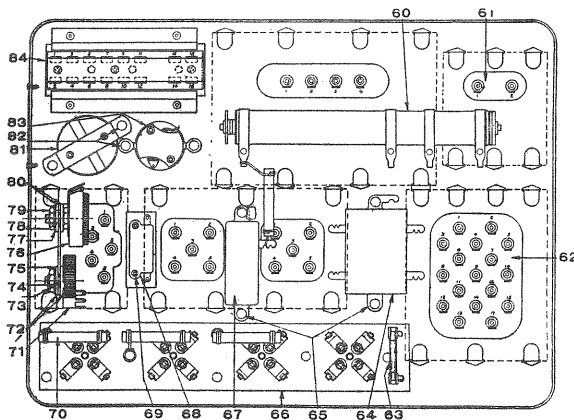

Fig. 3—Bottom View of Power Amplifier Unit, Showing Parts
- f. Shorted condenser, 64, Fig. 3, across power line in power-amplifier unit.